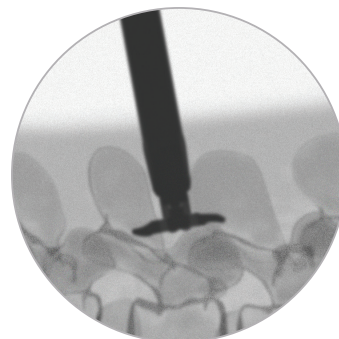

Fig. 12. Inserter Engaged with Proximal End of Implant
2. Place the Inserter through the Cannula. Engage and lock the proximal end of the Implant to the Inserter, following Step 7 (Loading the Implant) above. Fluoroscopy may be employed to assist in positioning the Inserter relative to the Implant (Fig. 12).